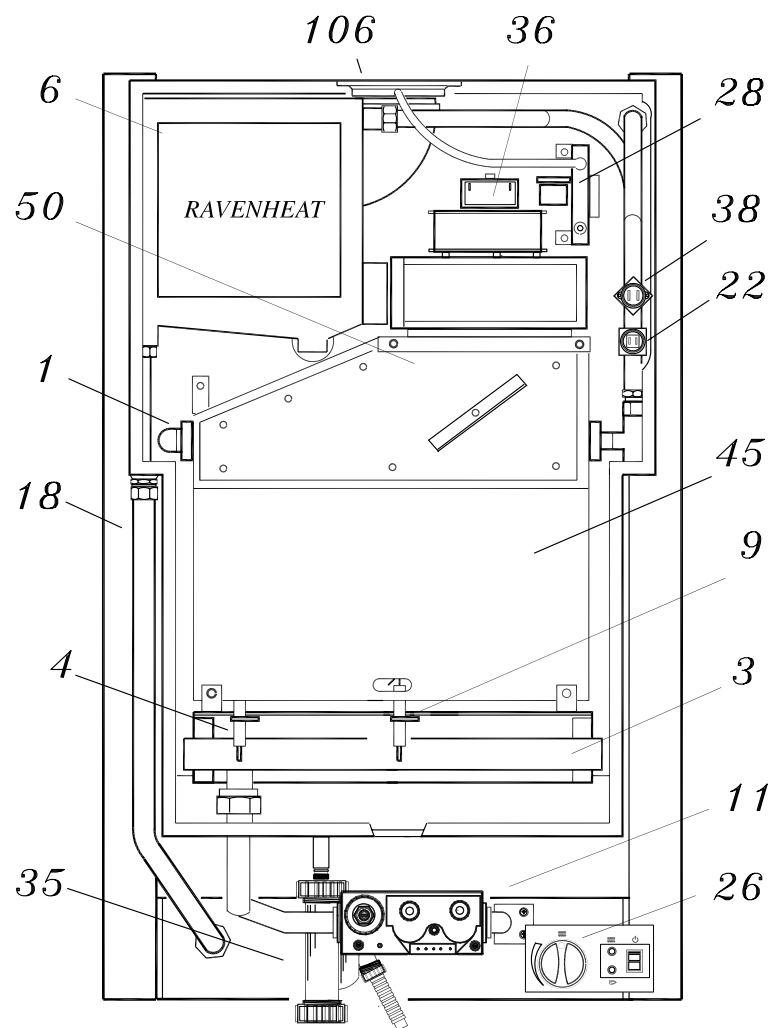

Fig.1
BASIC COMPONENTS - (See figure 1)
- 1.2.1** Fig 1 illustrates the general layout of components.